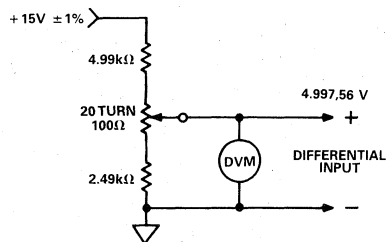

Figure 7. Voltage Divider to Derive  $R_{TO}$   $V_{OS}$  and Span Calibration Voltage
2. Connect the plus input to ground and the minus input to  $4.997,56$  volts using a voltage divider such as in Figure 7.